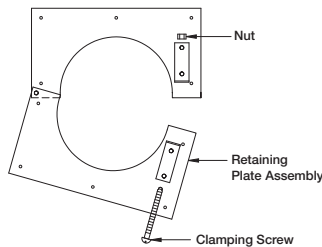

Figure 5 — Retaining Plate
- a. Use hardware provided to assemble the (2) halves of the retaining plate together on the side opposite the clamping screw. Refer to Figure 5.